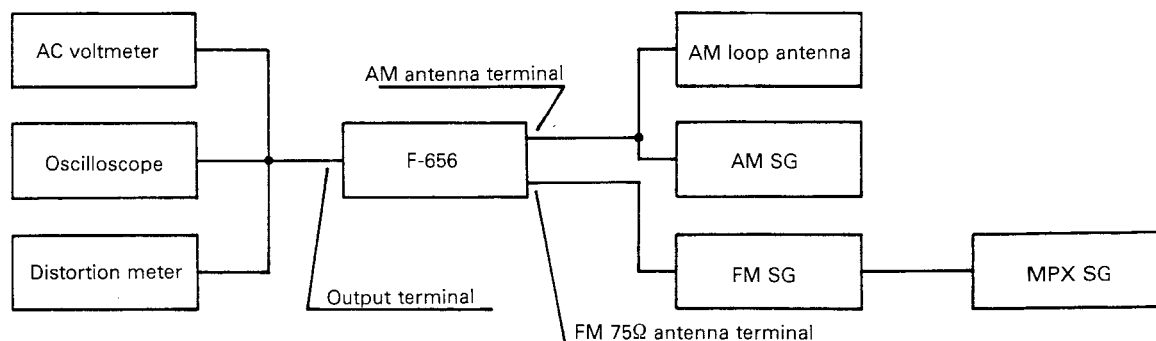

Fig. 5-1
- For connections and points to be adjusted, refer to Fig. 5-1 and Fig. 5-2.